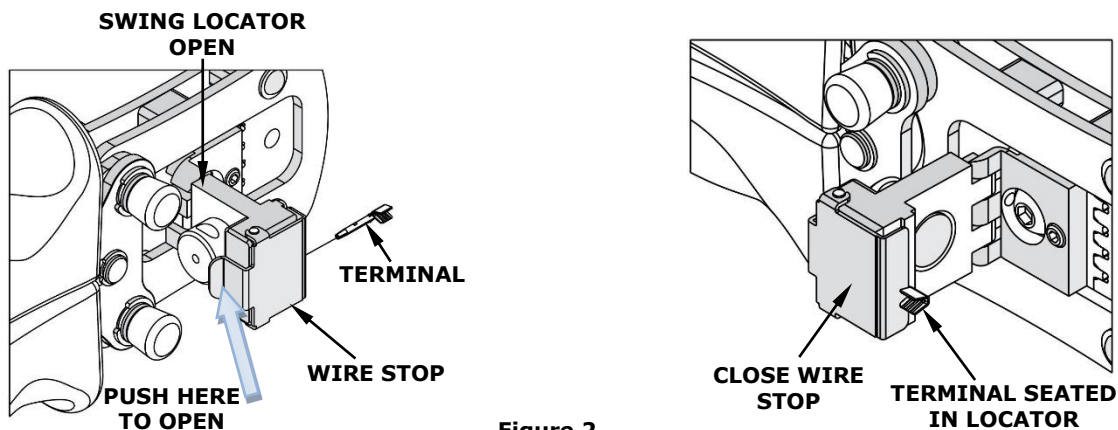

Figure 2
3. Press down on the wire stop on the locator. Insert the terminal into the nest opening as shown in Figure 2.